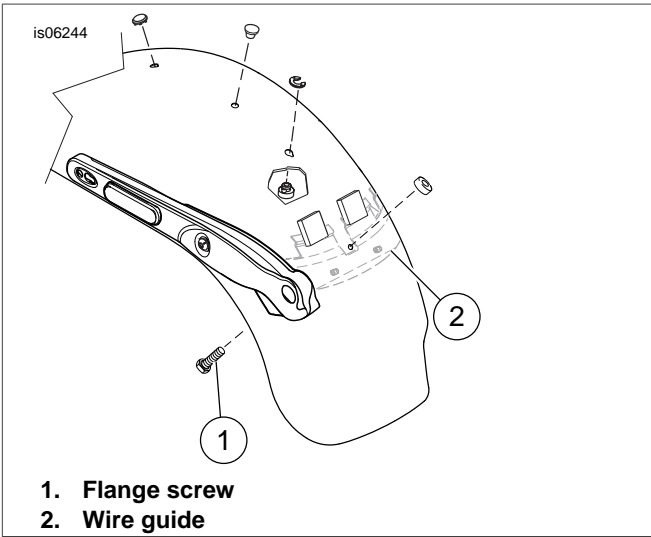

Figure 3. Grab Strap Installation - FXDWG Models
For 2010 and Later FXDWG Models: See Figure 3. Verify that the head of the flange screw (1) is clear of the wire guide (2) and is installed against the fender.